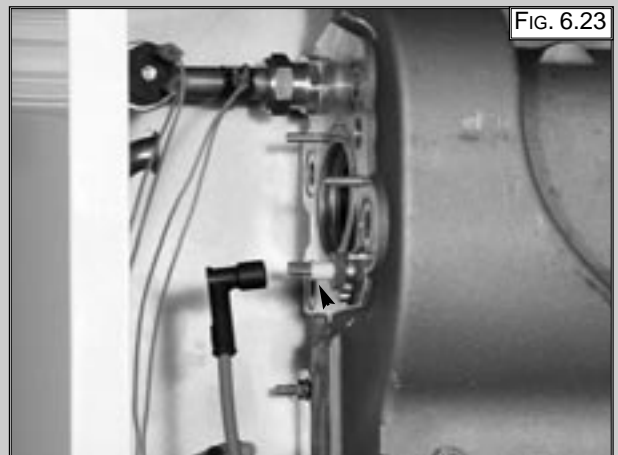

FIG. 6.23
2. Pull off the ignition cable (FIG. 6.23);